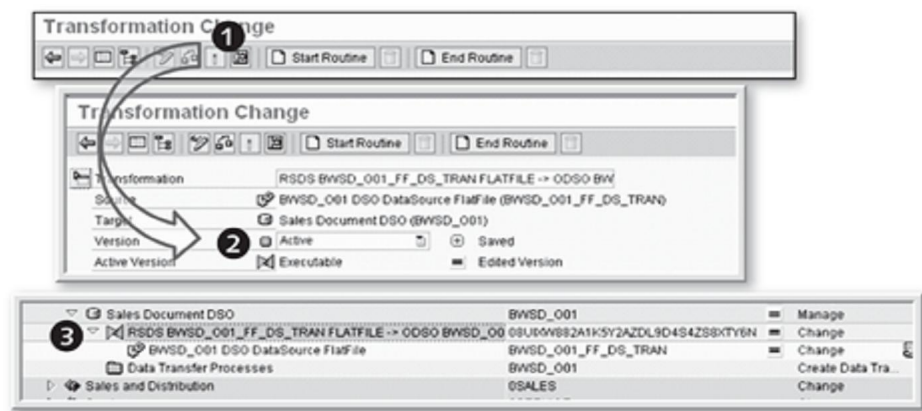

Figure 7.68 Activating the Transformation
Now you're ready to activate your transformation. Click on the Activate icon (❶). On successful activation, the version of the transformation changes to Active (❷). Now return to the main DWW screen. You can view the transformation between DataSource BWSD_O01_FF_DS_TRAN and DSO BWSD_O01 as shown in ❸ of Figure 7.68.